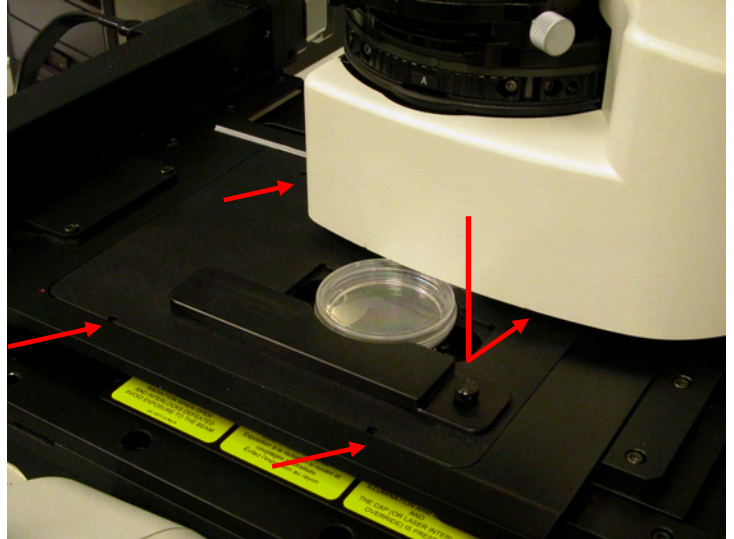

Figure 2. Petri Dish Stage Insert set screws
- c. Using a 1.5mm hex driver, tighten the 4 screws to attach the insert to the stage (Figure 2).